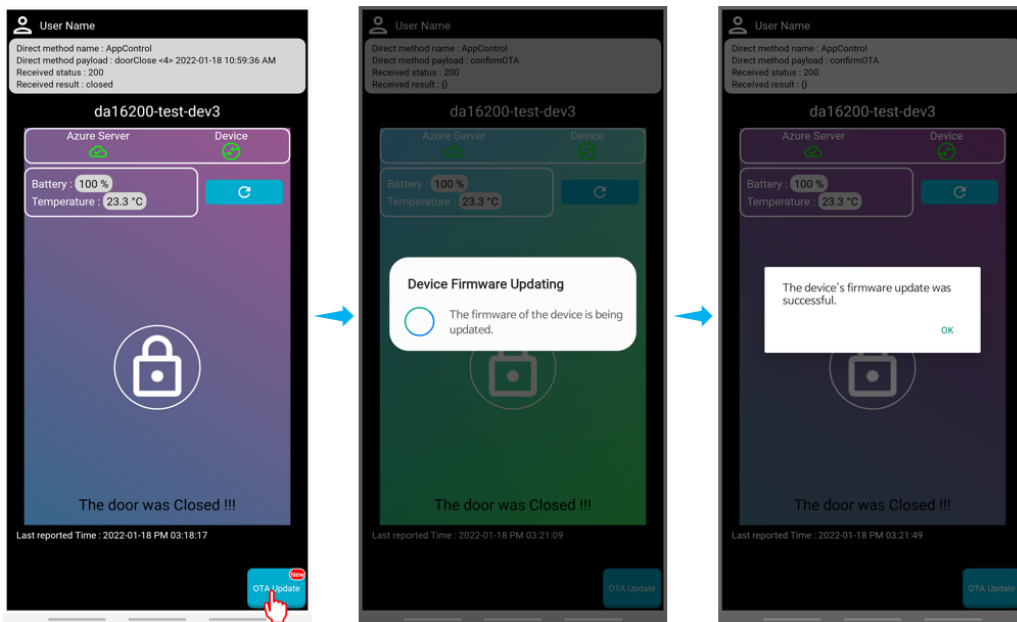

Figure 82: OTA Update Operation
7. The operation of the Android app is shown in Figure 82.